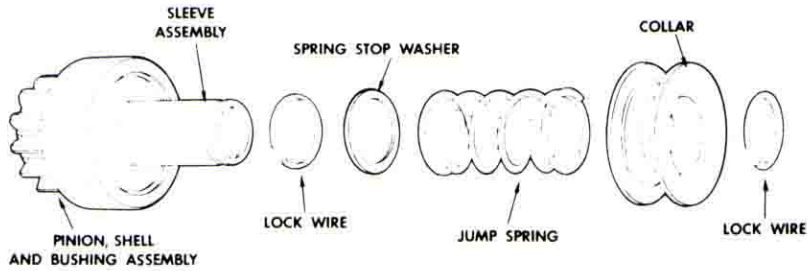

Figure 9—Disassembled view of early type intermediate duty sprag clutch drive assembly.
An early type clutch and late type clutch are shown in Figures 9 and 10.
2. Remove the spring stop washer and second lock wire from the early type clutch (Fig. 9).